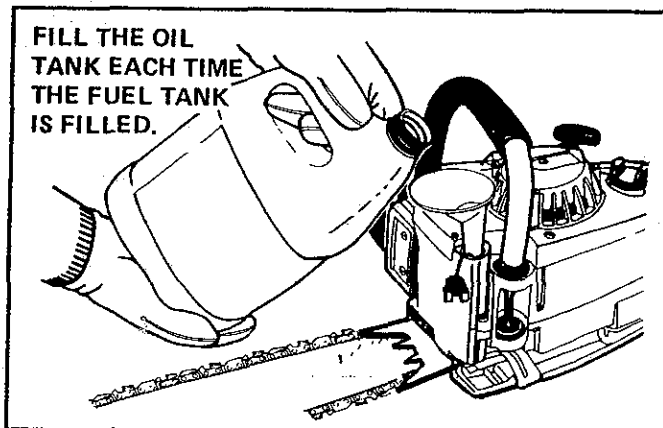

Figure 17
- b. Turn saw on its side with oil cap up. Figure 17.